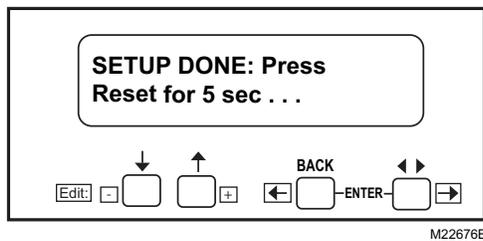

Fig. 21. Setup Done screen.
22. Press the down arrow to confirm the correct postpurge time. "Getting Data" will be displayed until the screen in Fig. 21 appears.